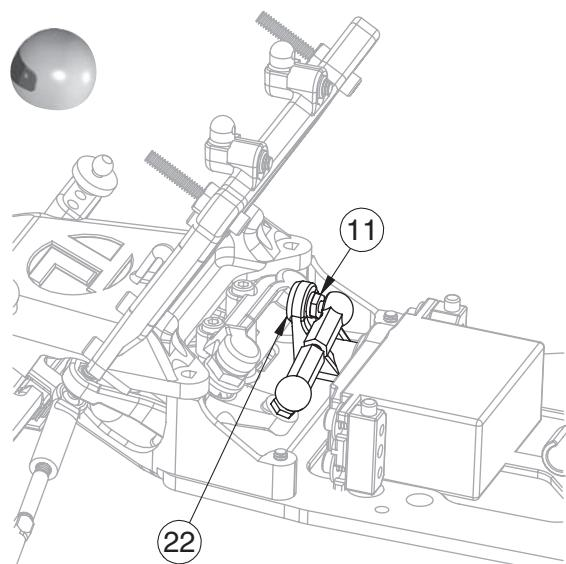

Figure C-7
- 1. Attach one end of the Servo Link to the Ball Stud (11) in the Servo Arm (22)
- 2. Attach the opposite end of the Servo Link to the Ball Stud in the Servo Saver top (3) as shown in Figure C-7.